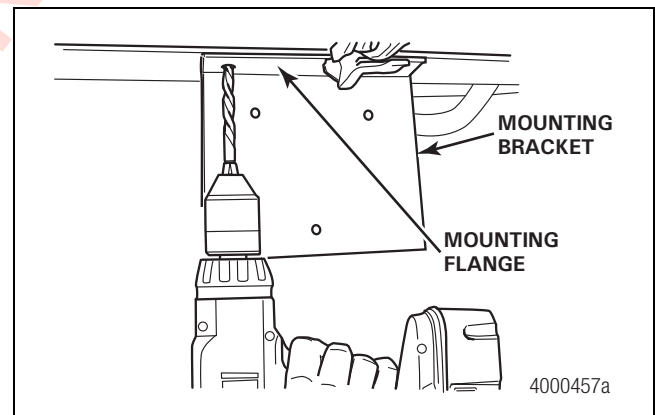
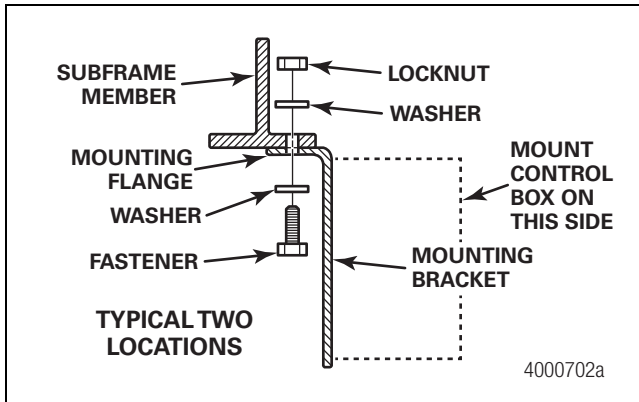
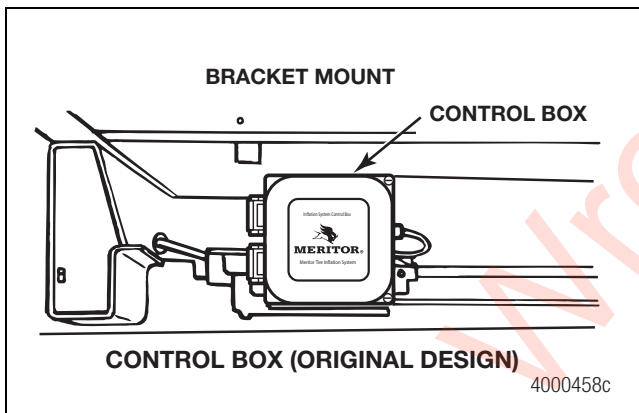
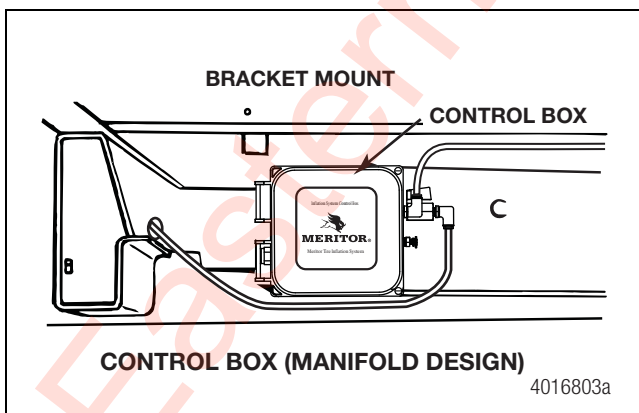

Figure 2.51
Figure 2.52
Figure 2.53
Figure 2.54
- Use the supplied mounting bracket as a template and drill two 5/16-inch (0.80 cm) holes into the trailer subframe. Use the supplied fasteners, washers and locknuts to secure the bracket to the subframe. Figure 2.51 and Figure 2.52.
4. Install the control box to the mounting bracket opposite side of the mounting flange using the supplied 1/4-inch (6.36 mm) fasteners, washers and locknuts. Figure 2.52, Figure 2.53 and Figure 2.54.